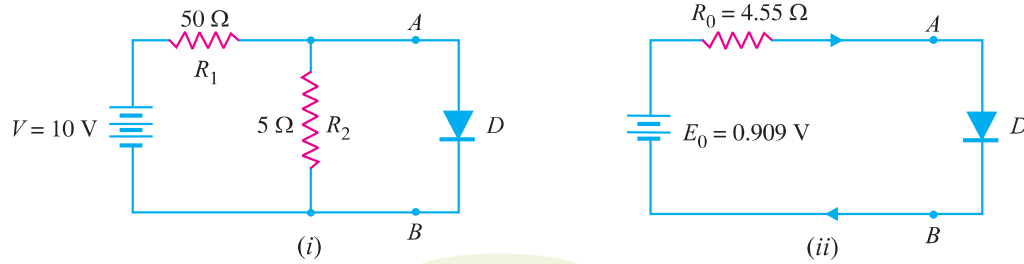

Fig. 6.10
**Example 6.3.** Find the current through the diode in the circuit shown in Fig. 6.10 (i). Assume the diode to be ideal.
**Solution.** We shall use Thevenin's theorem to find current in the diode. Referring to Fig. 6.10(i),